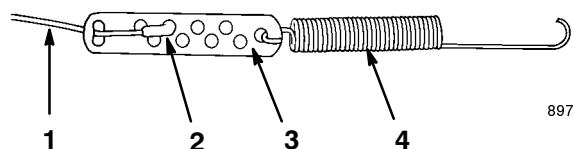

Figure 11
2. Hook the spring to the round hole at the end of the cable adjuster (Fig. 11).
3. Secure the end of the cable to the cable adjuster as illustrated in Figure 11.